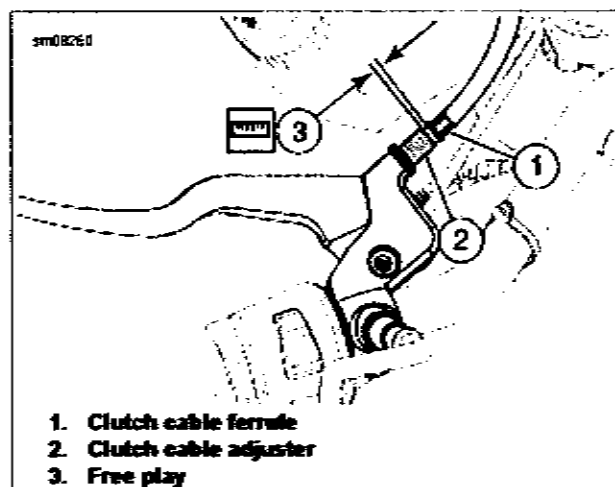

Figure 2-17. Clutch Lever Free Play
1. See Figure 2-17. Measure clutch lever free play.
- a. Pull clutch cable ferrule (1) away from clutch cable adjuster (2).
- b. Measure free play (3).